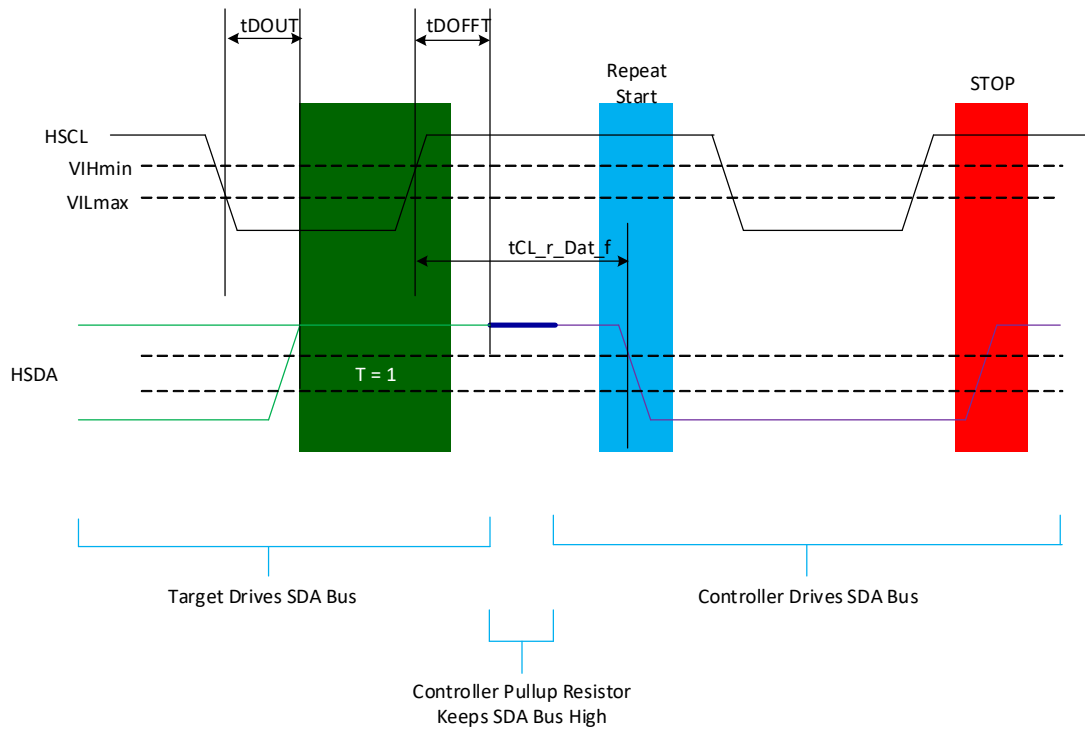

Figure 37 — T=1; Controller Ends Read with Repeated START and STOP Waveform
- NOTE 7 See Figure 37 to see how Host ends target device operation.
NOTE 2 See Figure 37 to see how Host ends target device operation.
- NOTE 4 See Figure 37 to see how Host ends target device operation.